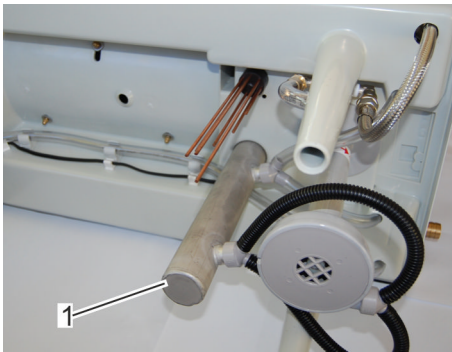

Fig. 66: UV degermination system
- ⇒ The UV degermination system is located below the center plate next to the pump (Fig. 66/1).